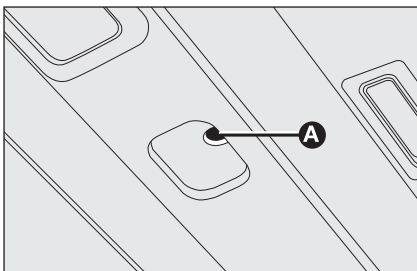

fig. 102
- ❑ introduce the socket in **A-fig. 102** and turn it: